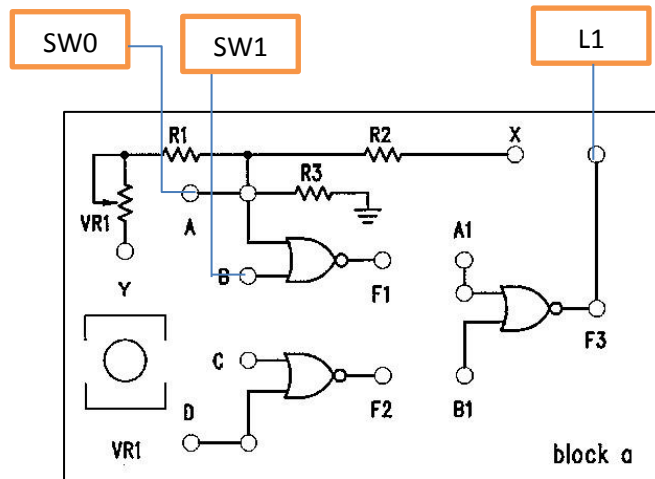

Figure 1.1.1
- 1.1.1 To construct the circuit shown in **Figure 1.1(a)** on **block a**, connect inputs A and B to Data Switches SW0 and SW1 respectively. Then connect output F1 to Logic Indicator L1. Refer to **Figure 1.1.1**. Set SW1 (input B) to “0” and observe the states of F1 as SW0 toggles between 0 and 1. Record your observation in a truth table labelled as **Table 1.1(a)**. Does the circuit act as a NOT gate? Discuss your result.